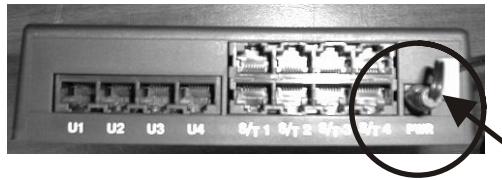

Figure 4. Power Connector
Step 2: Connect the DC power plug of the power supply to the power connector on the rear of the UT4620 as shown in **Figure 4**. Place the power cable into the wire clip to secure it.